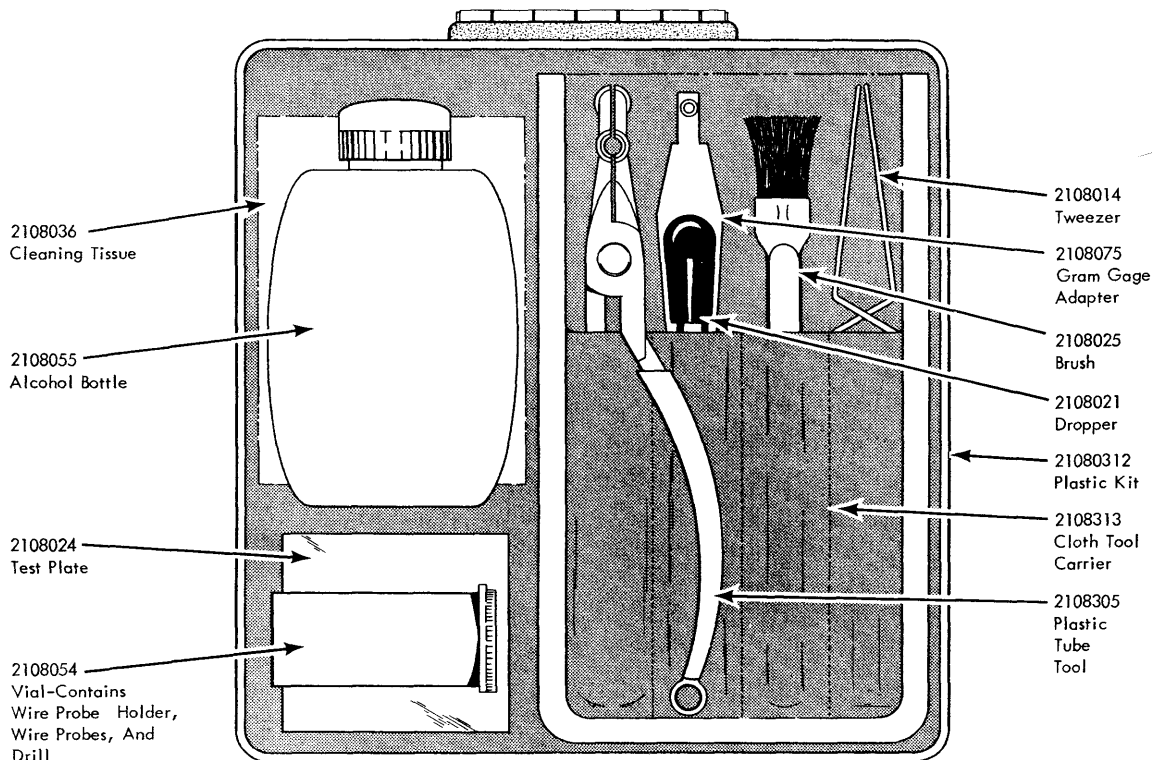

Figure 65. Head Cleaning Kit
18. Install special arm holder assembly (part #2102078) on arm before working on it (See Figure 65).
5. Air heads (See Figure 65).